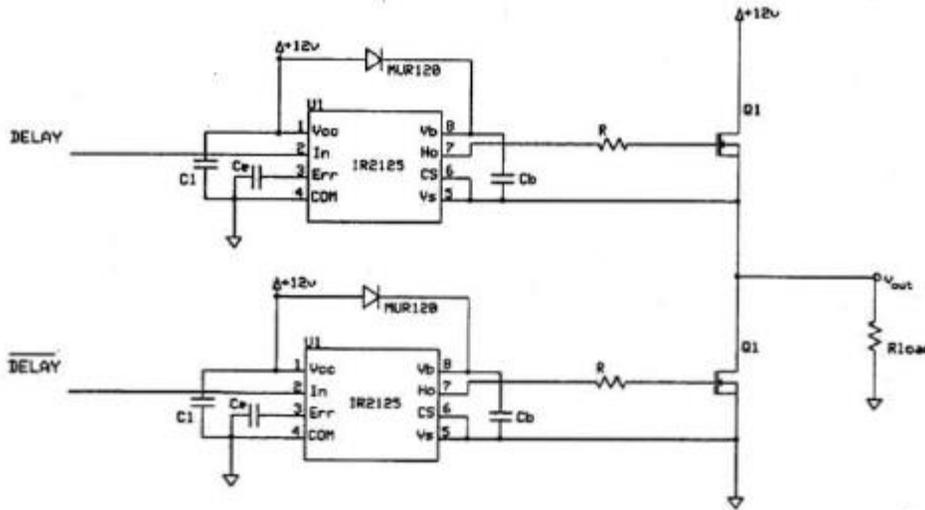

Figure 4: Full Switching Power Amplifier
1. Construct the circuit shown in Figure 4. For R_{load} , use the power resistor that you were given in your component kit. Connect the DELAY and #DELAY lines from your delay circuit to the appropriate inputs in Figure 4. Setup your function generator to provide the following: